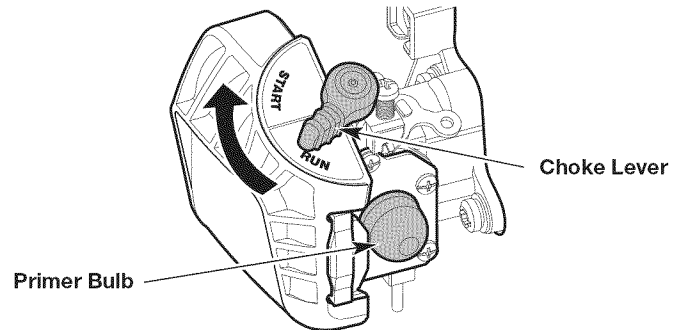

Fig. 4
3. Slowly press and release the primer bulb **10 times** (Fig. 4). If fuel cannot be seen in the primer bulb, press and release the primer bulb until fuel is visible.
5. **DO NOT** squeeze the throttle control. Flip the choke lever clockwise until it clicks into the **START** position (Fig. 4).